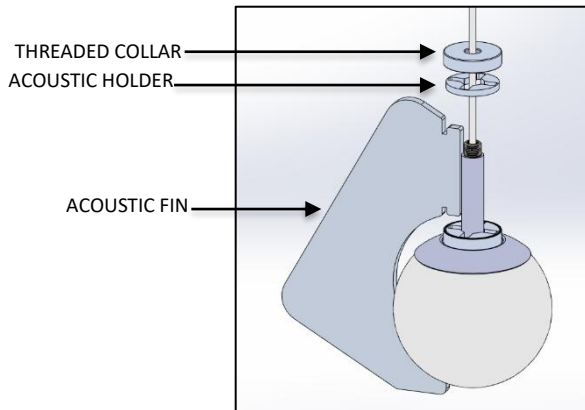

FIG. 41 – ACOUSTIC FIN INSTALLATION
33. Raise the upper ACOUSTIC HOLDER and THREADED COLLAR and insert ACOUSTIC FINS into lower ACOUSTIC HOLDER as shown in FIG. 41.